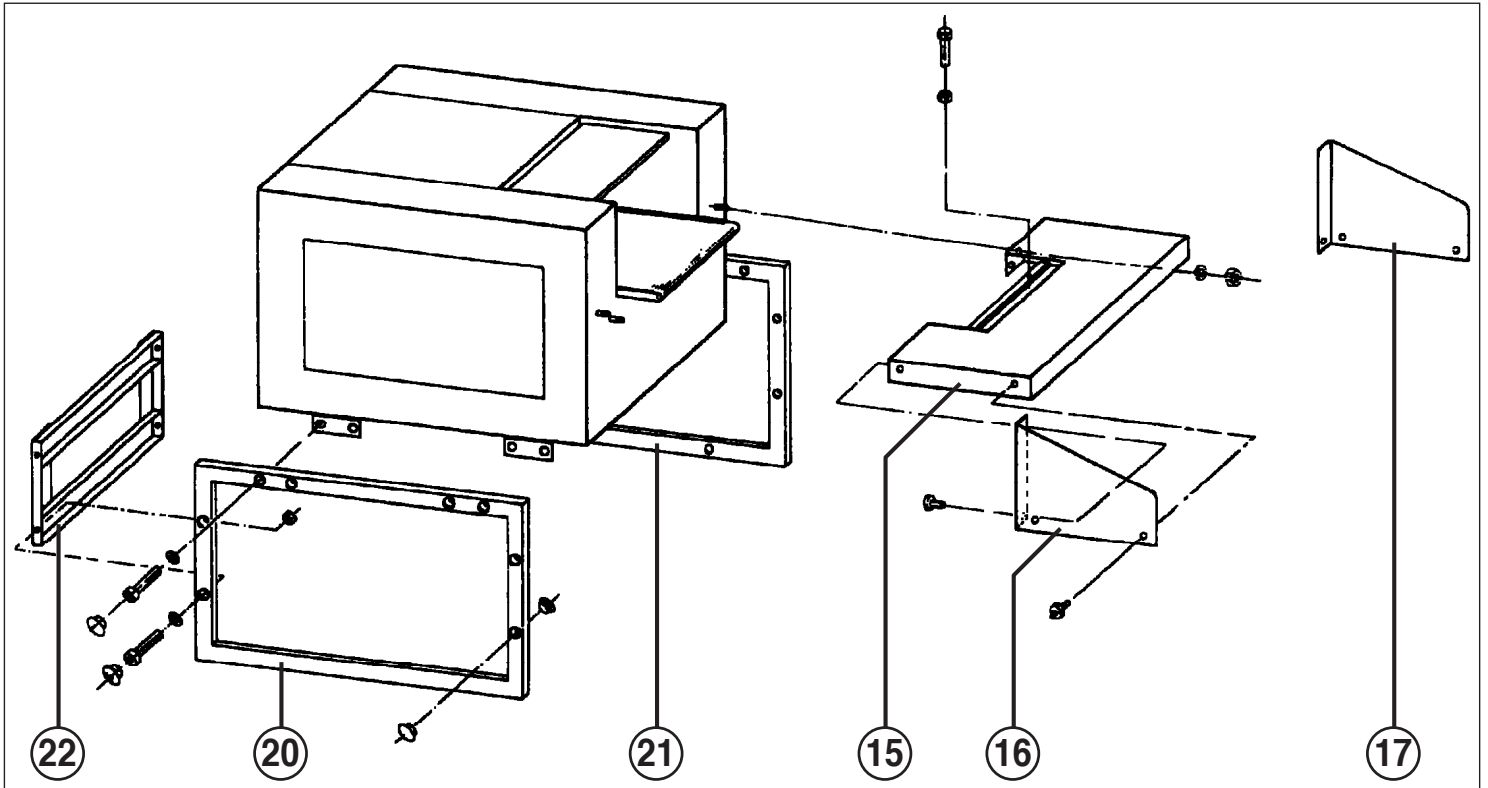

Fig. 1
- 15 = Feed table (fig. 1)
- 16 = Protective angle, left side (fig. 1)
- 17 = Protective angle, right side (fig. 1)
- 20 = Base frame, left side (fig. 1)
- 21 = Base frame, right side (fig. 1)
- 22 = Dividing panel (fig.1)
BASE FRAMES (Figs. 1 and 2):
INSTALLING THE FEED TABLE (15) (Fig. 1):
4. Guide the power cable for the emergency-stop rail (14) through the sleeve on the front side of the housing, through the cable gland on the bottom of the switch box, and on into the switch box. Then connect the blue wire to terminal 20 and the brown wire to terminal 19.
INSTALLING THE PROTECTIVE ANGLES (Fig. 1):